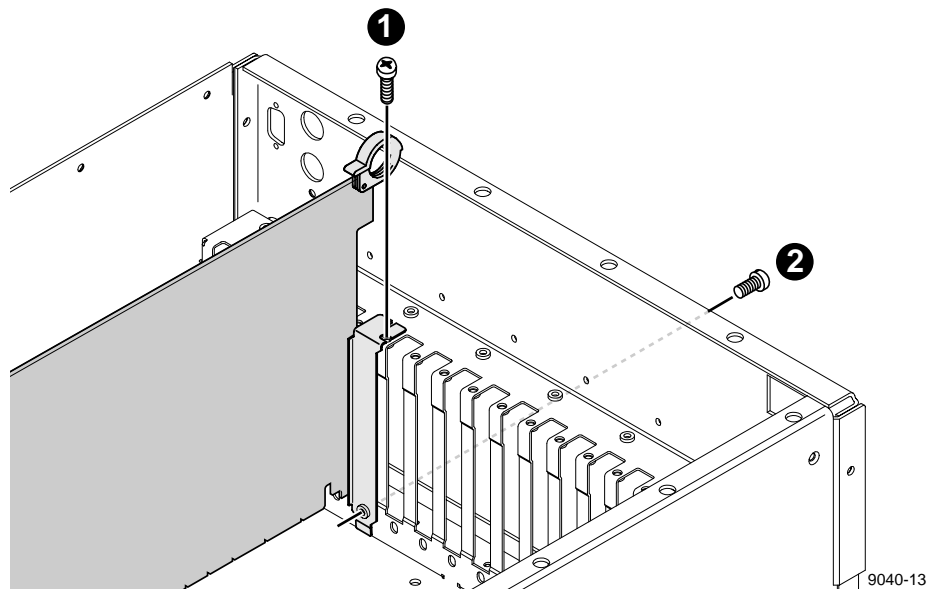

Figure 3. Removing the Board Mounting Bracket Screws
2. Using a Torx tool with a T15 tip, remove the two bracket mounting screws: one that anchors the top of the bracket from inside the chassis (❶ in Figure 3) and one that anchors the bottom of the bracket from the outside rear panel of the chassis (❷ in Figure 3).